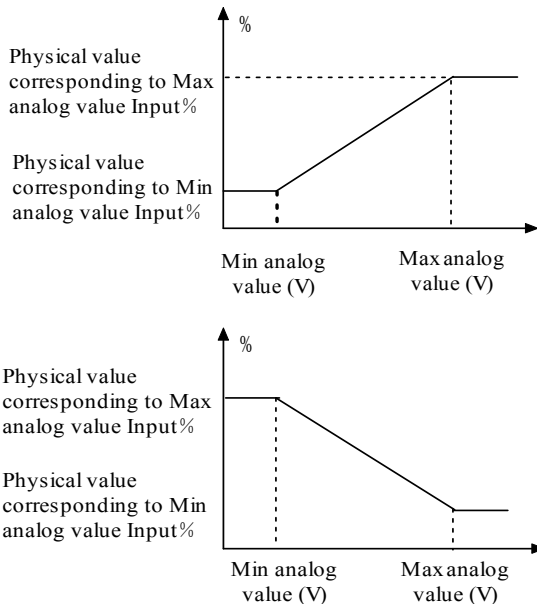

Fig. 5-4-1 Analog input linear curve
- ◆ Through setting P4.01~P4.04 P4.06~P4.09 and P4.11~P4.14 users can define two characteristic linear curves. The positive and negative function is shown in Fig. 5-4-1.